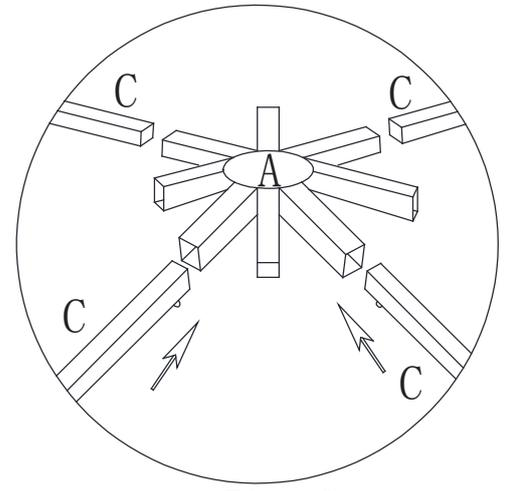

Fig 10
8. Insert the long top bar (C) into the center connector (A) Fig 10, attach the connecting pipe (D) to the corner parts (M) by bolt (DD). Fig 11